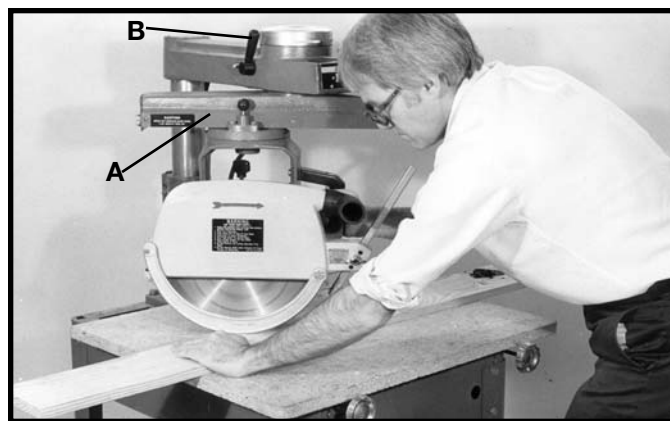

Fig. 63
Miter cutting is similar to cross-cutting except the workpiece is cut off at an angle (up to 45 degrees right or left) rather than being cut off square. The settings and operation are performed in the same manner as cross-cutting except that the track arm (A) Fig. 63, is first positioned to the desired angle on the miter scale before it is clamped in place with clamp handle (B). The operator should position the hand holding the workpiece on the opposite side to the direction of the miter so the blade is pulled through the workpiece and away from the hand. Fig. 63, shows a typical miter cutting operation on the radial saw.